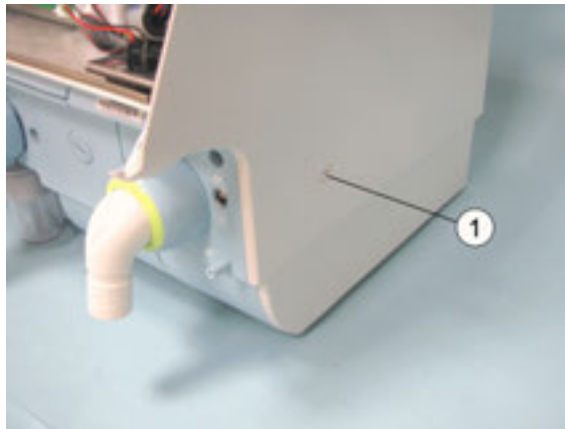

Fig. 58 Right side view of device: Screw slot
- 1 Turn the screw slot (Fig. 58/1) vertical.
- 2 Press the screw slot into the device slightly and at the same time turn the screw slot (Fig. 58/1) horizontal.